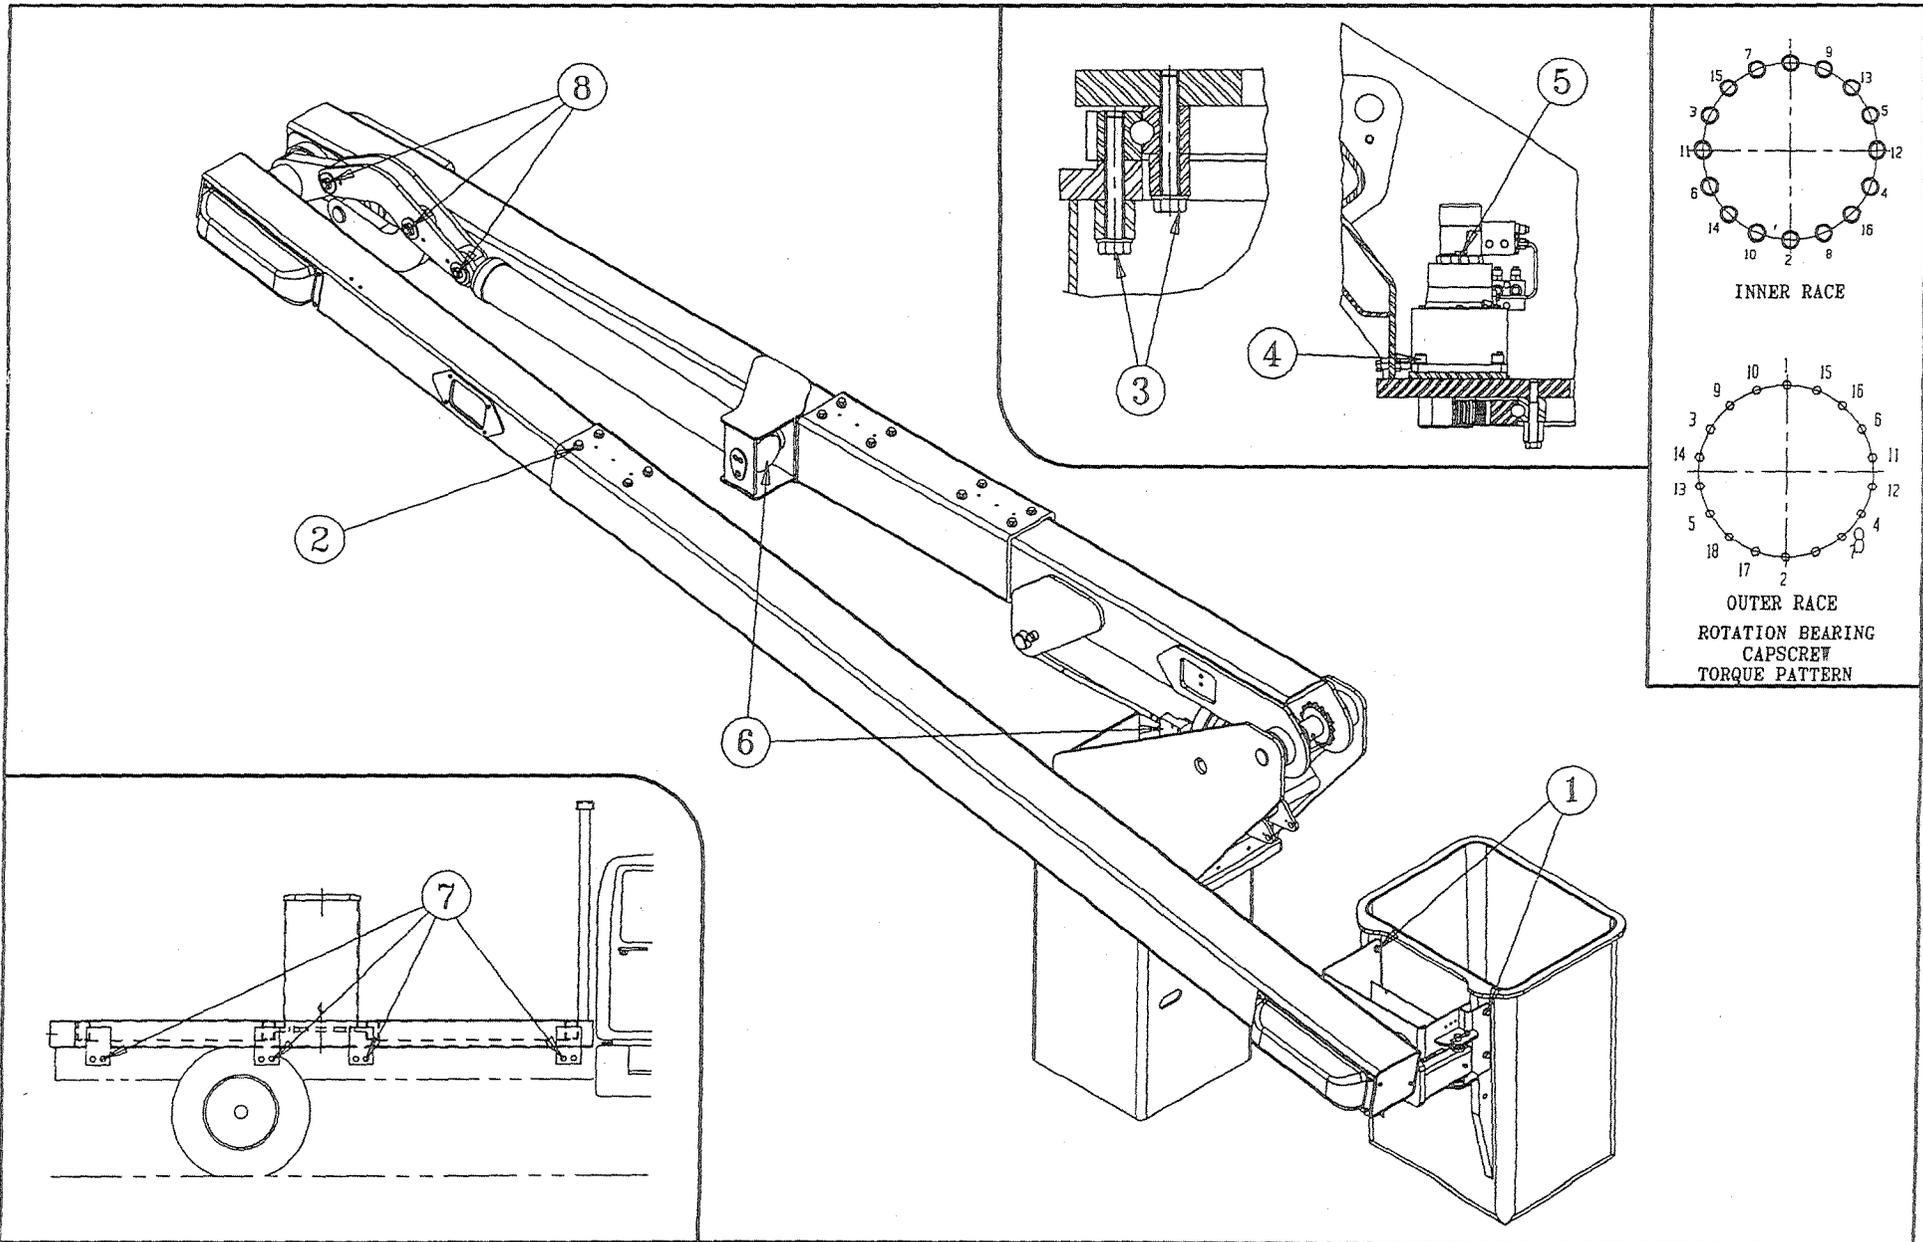

FIGURE 5.2 - CRITICAL TORQUE DIAGRAM FOR MODEL 200
2. Inspection should be done according to the pattern shown in Figure 5.2.
7. Do Steps 1 through 6 on the inner race of the rotation bearing, referring to Figure 5.2 for the torque pattern.